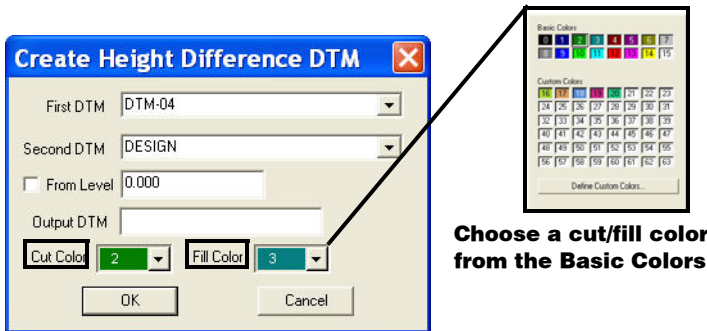

Figure 14-41. Create Height Difference DTM Dialog Box
1. Click **Surface** ► **DTM Tools** ► **Create Ht Diff DTM**. The *Create Height Difference DTM* dialog box displays (Figure 14-41).
2. On the *Create Height Difference DTM* dialog box (Figure 14-41), select or enter the following: